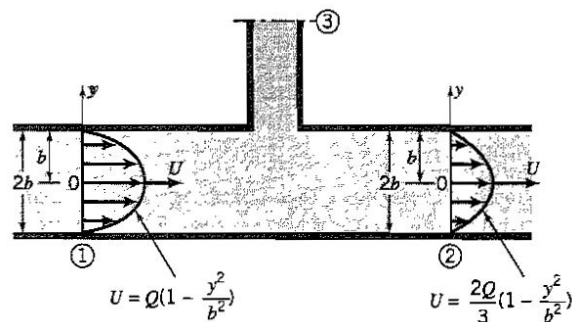

Figure P3.23
3.23 Two rectangular air-conditioning ducts, of constant width W (into the page), meet at right angles as shown in Figure P3.23. The flow is steady and the density is constant.